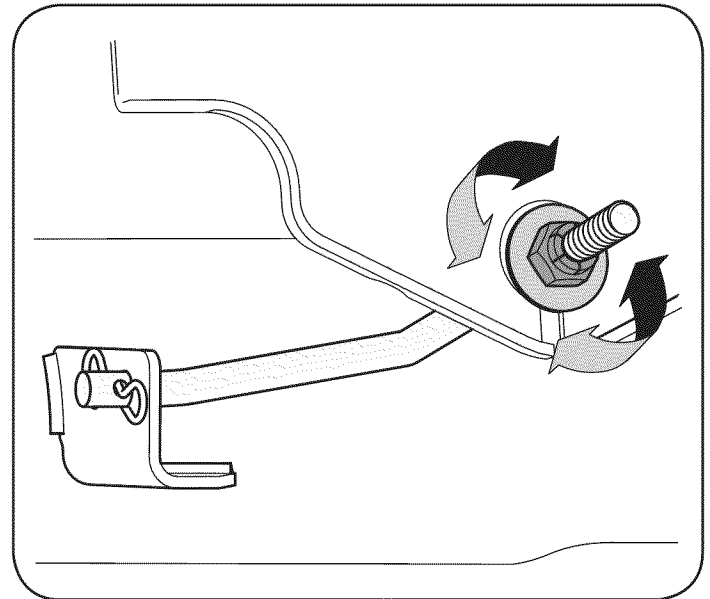

Figure 17
3. Locate the flange lock nut on the front side of the stabilizer bracket. See Fig. 17.